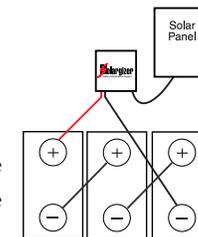

Fig. 3
of how a 24-Volt Solargizer is installed on two (2) 12 volt batteries and Fig. 3 for a 36-volt Solargizer on three (3) 12-volt batteries).